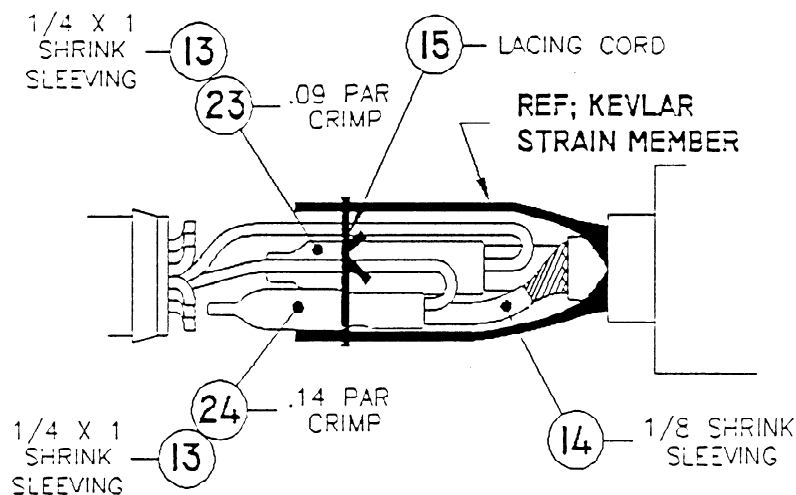

FIGURE 5
22. Arrange the two Kevlar bundles around the two splices 180° apart. At approximately 4.4 cm (1-3/4 inches) from the strain member entrance, tie together loosely the bundles of Kevlar and the two splices. Cut away the excess cable lacing (item 15). Keep the bundle small enough to fit inside the boot; see Figure 5.